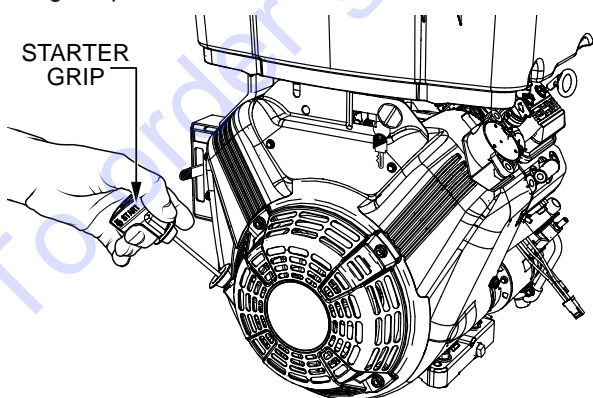

Figure 18. Recoil Starter Grip
2. Slowly pull the recoil starter grip (Figure 18) until resistance is felt, then pull briskly and smoothly to start the engine. Gently return the starter grip to its original position.